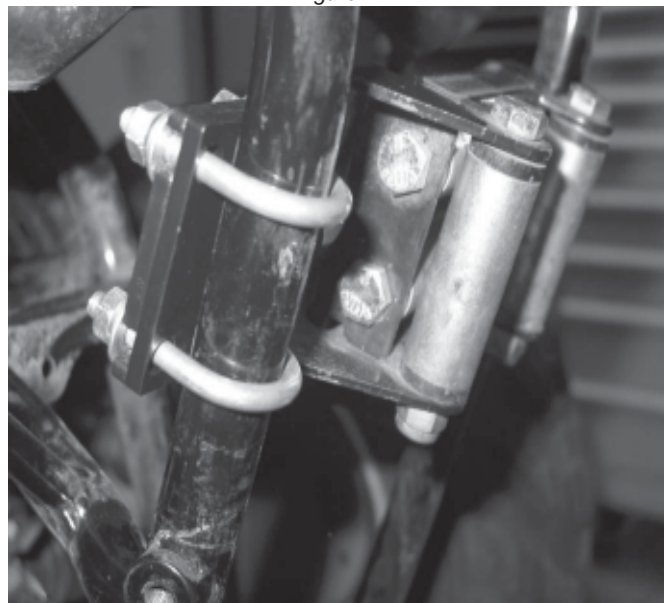

Figure 5
5. Attach the fairlead bracket support (A2) to the front frame tubes see figure 5. The support bracket attaches behind the front tubes. Space the bracket away from the tubes using the spacer brackets (A3). Attach the brackets using the 1/4-20 u-bolts (B2), lock nuts (B1) and flat washers (B7). Before tightening the u-bolts make sure the bracket is in the correct position by fitting the front fascia into position and checking location. Tighten the nuts to a recommended torque of 7 ft-lb (10 N-m). **NOTE:** If this kit is being installed on a 00 to 03 Honda the wider fairlead bracket (A2) will need to be used. This will require the use of the wider u-bolts (B3). The spacer brkts (A3) will not be required when installing the wider fairlead brkt.